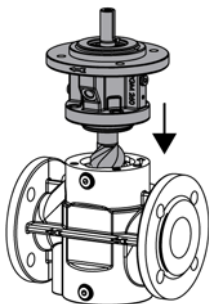

Fig. 30
7. Slide the premounted unit consisting of flange cover **1** and main screw **661.1** into the pump housing until the main screw engages into the idle screws, see Fig. 30.